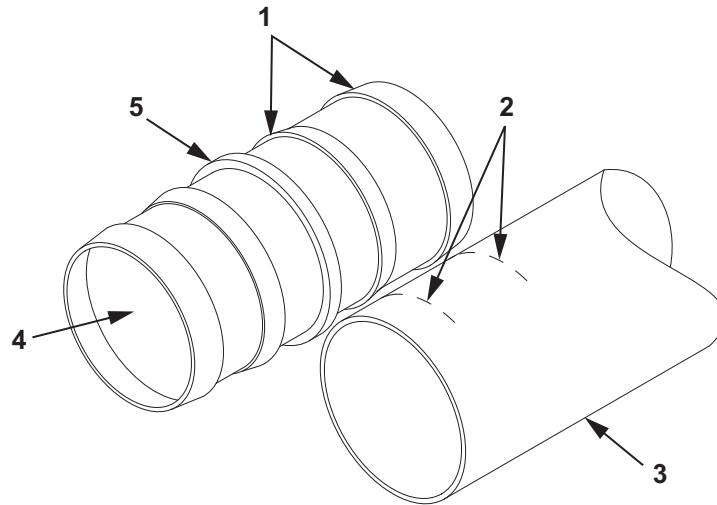

Figure 22. Hose Assembly Repair.
10. Using the hose splice (Figure 22, Item 1) as a guide, align the cut end of one section of hose assembly (Figure 22, Item 2) with the machined stop (Figure 22, Item 3) in the center of the hose splice (Figure 22, Item 1).
11. Using a marking pen, mark two lines (Figure 22, Item 4) on the hose assembly (Figure 22, Item 2) where the hose barbs (Figure 22, Item 5) will be located.